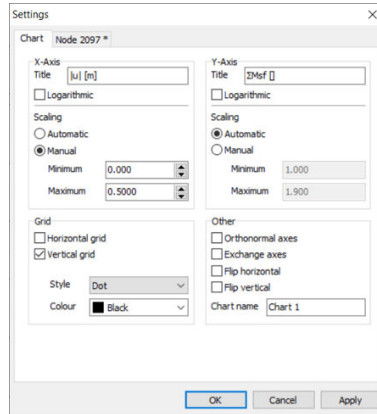

Figure 40: The Chart tabsheet in the Settings window
11. In the **Chart** tabsheet shown in Figure 40 (on page 50), set the scaling of the x-axis to **Manual** and set the value of **Maximum** to 0.5: